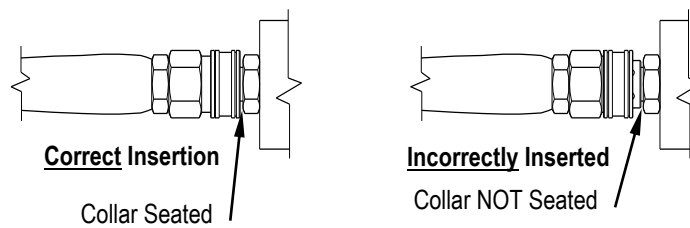

Figure 2a
- 2) Your pressure washer hose is equipped with quick couplers. Simply pull the collar back and push the coupler onto the water outlet nipple. (Figure 2a).